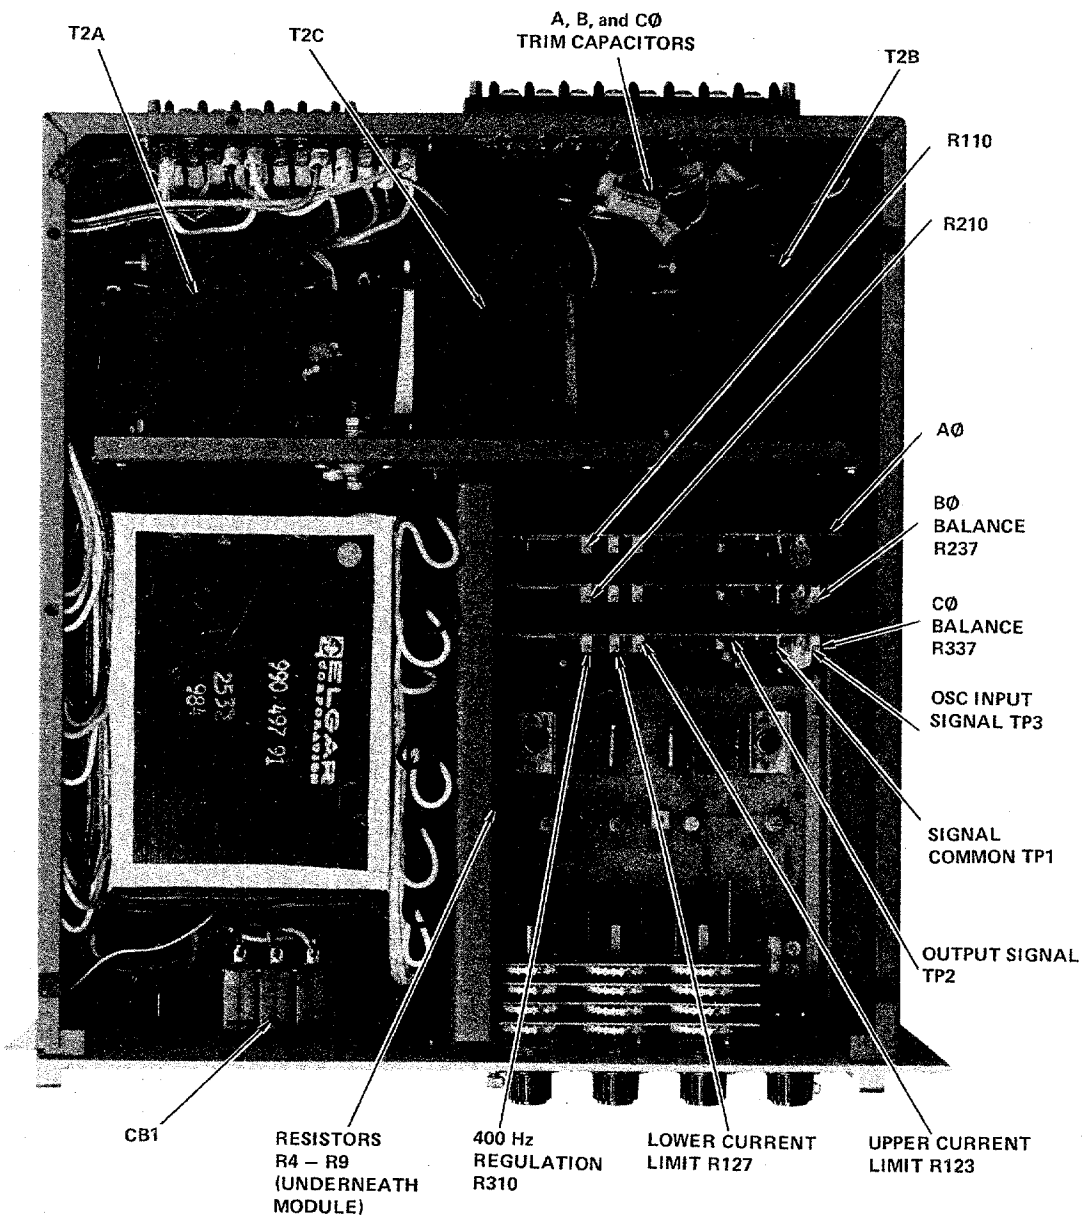

Figure 5-2. Model 1753B Top View
angle control is used to set A-B voltage and the C-phase angle control to set the A-C voltage. To check the output and amplitude balance and adjust as needed (see Figure 5-2), proceed as follows:
5-20 ADJUSTMENTS. The AC Power Source is delivered fully adjusted and calibrated; therefore, adjustment is not normally required unless a malfunction occurs or parts are replaced. Adjustments should not be attempted unless indicated by troubleshooting. The A, B, and C phase amplifiers are nearly identical (the A phase amplifier has its amplitude control R1 located on the unit front panel. The amplitude balance potentiometers R237 and R337 are located on their respective B and C phase amplifier circuit boards); therefore, current limit adjustments are performed in the same manner. See Figure 5-2.
7. To remove clipping from upper peak of sine wave, adjust the upper current limit potentiometer R123 (see Figure 5-2) CCW only as much as necessary to remove clipping. Further adjustment CCW will permit the output transistors to deliver an unsafe amount of current.